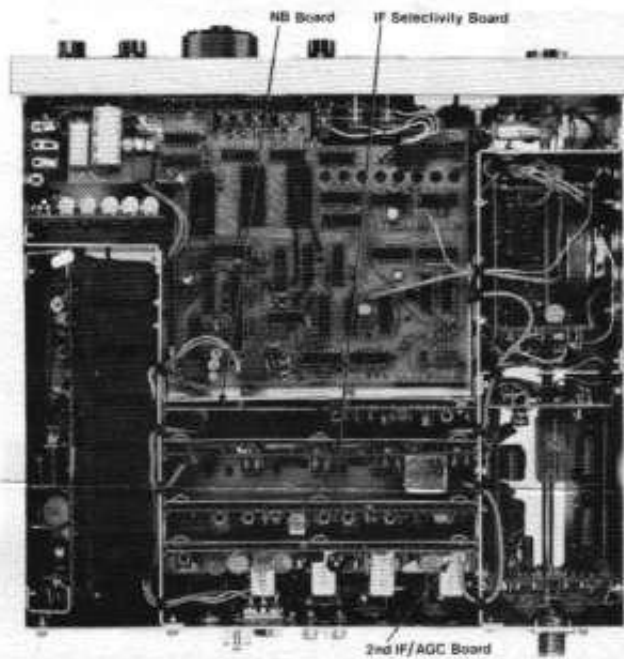
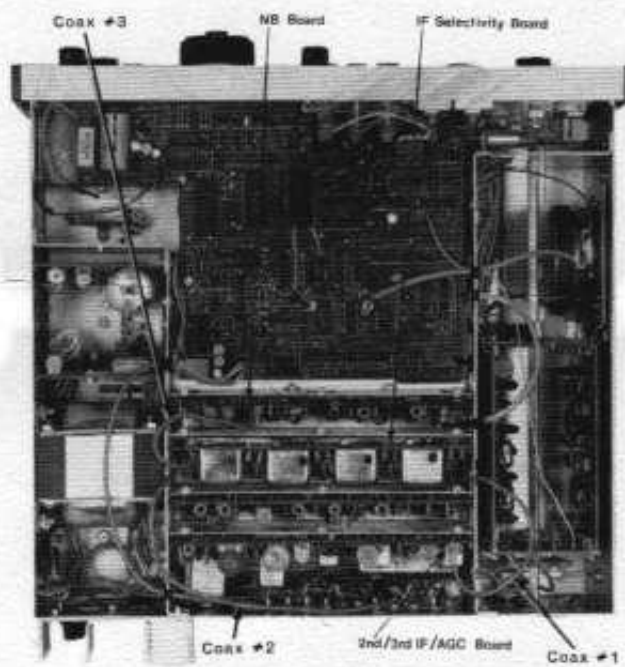

figure 2A - TR7 Top View
figure 2B - R7 Top View
4. Remove the IF Selectivity module as follows. Refer to figure 2A for TR7 Top View and to figure 2B for R7 Top View.
- a) For the TR7, unplug the coax from the 2nd IF/AGC Board. For the R7, two (2) coaxes must be unplugged from the 2nd/3rd IF/AGC Board. This is accomplished by first unplugging coax #1. Then remove the 2nd/3rd IF/AGC Board and unplug coax #2 from it.